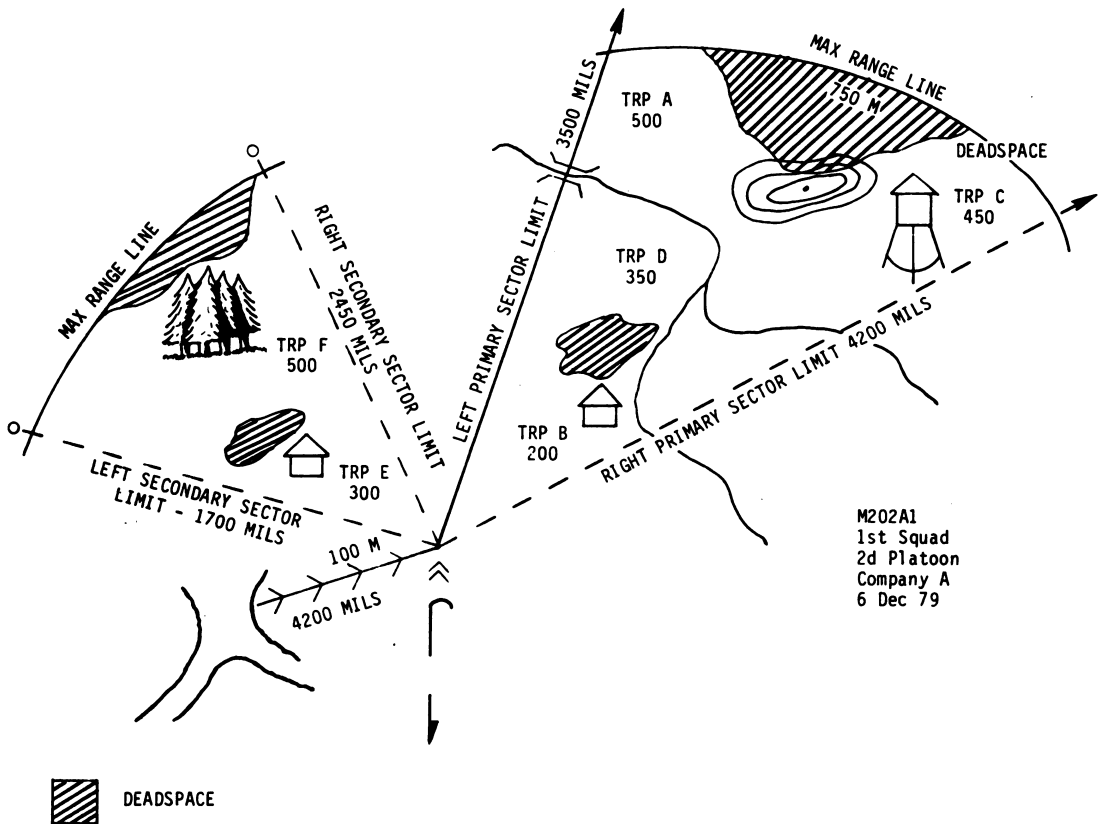

Figure 1
(8) Your range card is now finished. The range card you construct for your sector of fire may not look the same as the one in this task. However, the basic information and method of construction presented in this task is the same when preparing an M202A1 range card (fig. 1).
(9) Make two copies of each range card prepared. Keep one copy at your firing position. The second copy will normally be picked up by your squad or section leader for preparation of fire plans and coordination of fires.